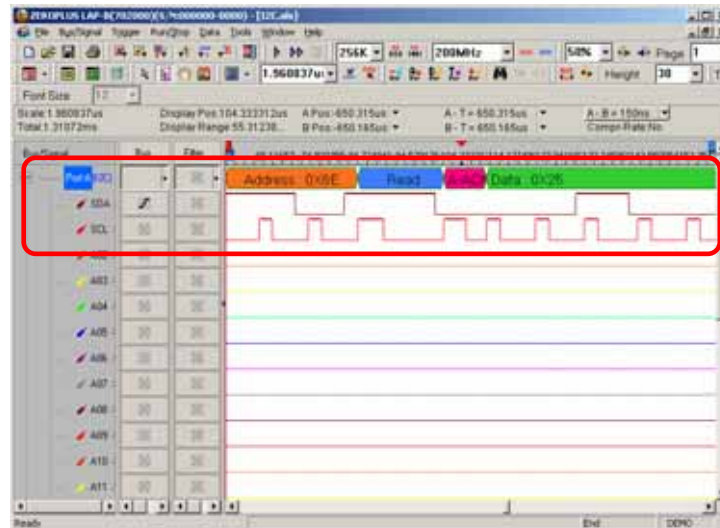

Fig 4-69 – Waveform Analysis
Step 8. Click **Run** to acquire I2C signal from the tested I2C circuit. Refer to Fig 4-69.